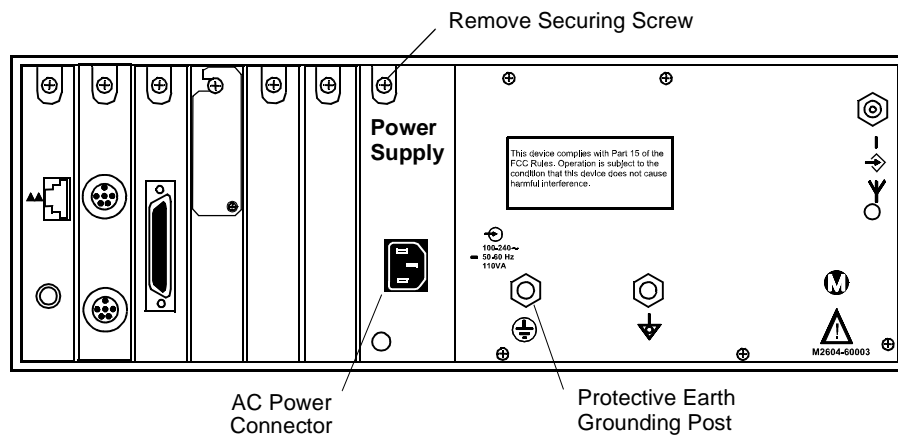

Figure 7-10 Removing Power Supply from Rear Panel Slot
- Step 3.** Remove the screw that secures the Power Supply to the Receiver backplane. See Figure 7-10.